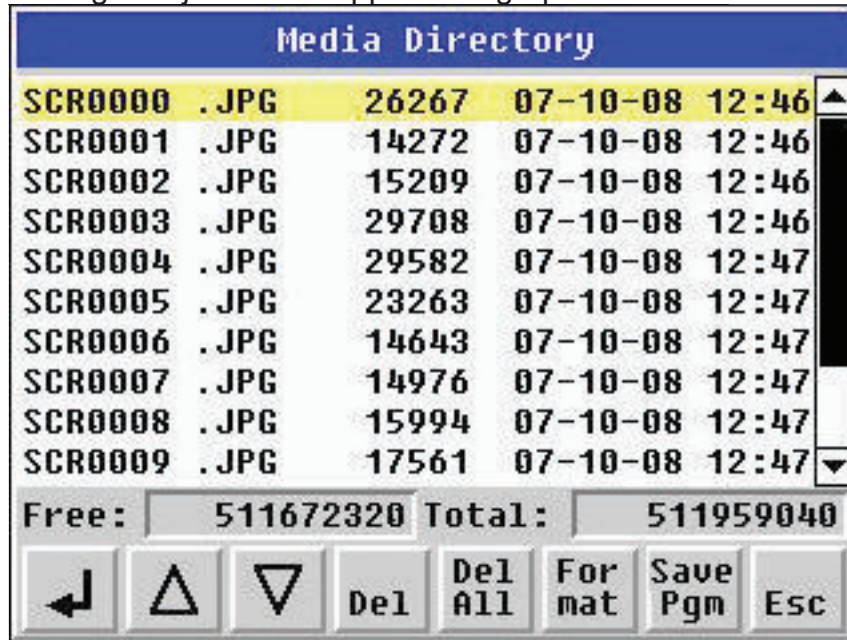

Figure 9.2 – Removable Media Submenu
*To install a MicroSD card:* Align its 8-pin gold edge connector down, facing the front of the VPAC 6 unit as shown in Figure 9.2; then carefully push it all the way into the Memory slot. Ensure that it clicks into place.